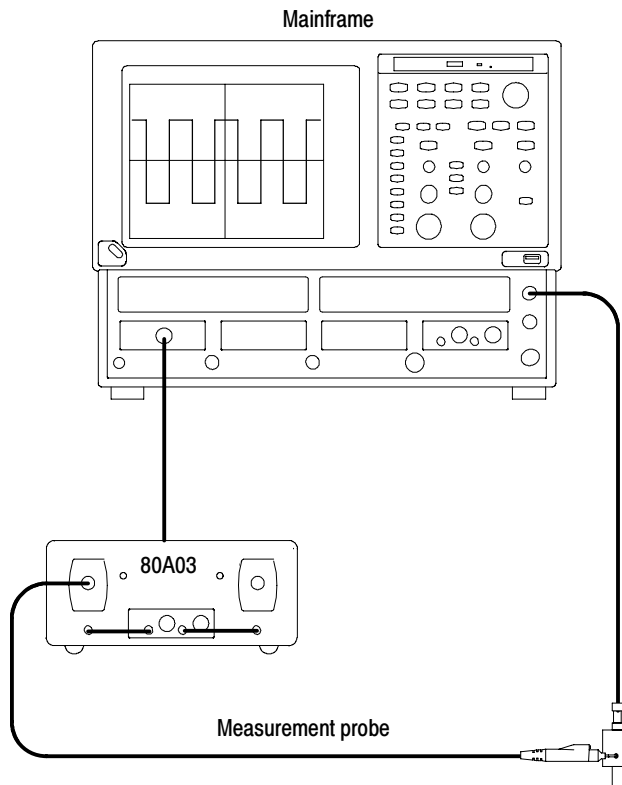

Figure 7: Equipment setup for functional check
- a. On the mainframe, connect the SMA cable to the Internal Clock Output. See Figure 7 on page 10 for details.
- b. Turn the Vertical scale knob and set the sensitivity to display a square waveform of several cycles, similar to the one shown in Figure 7.